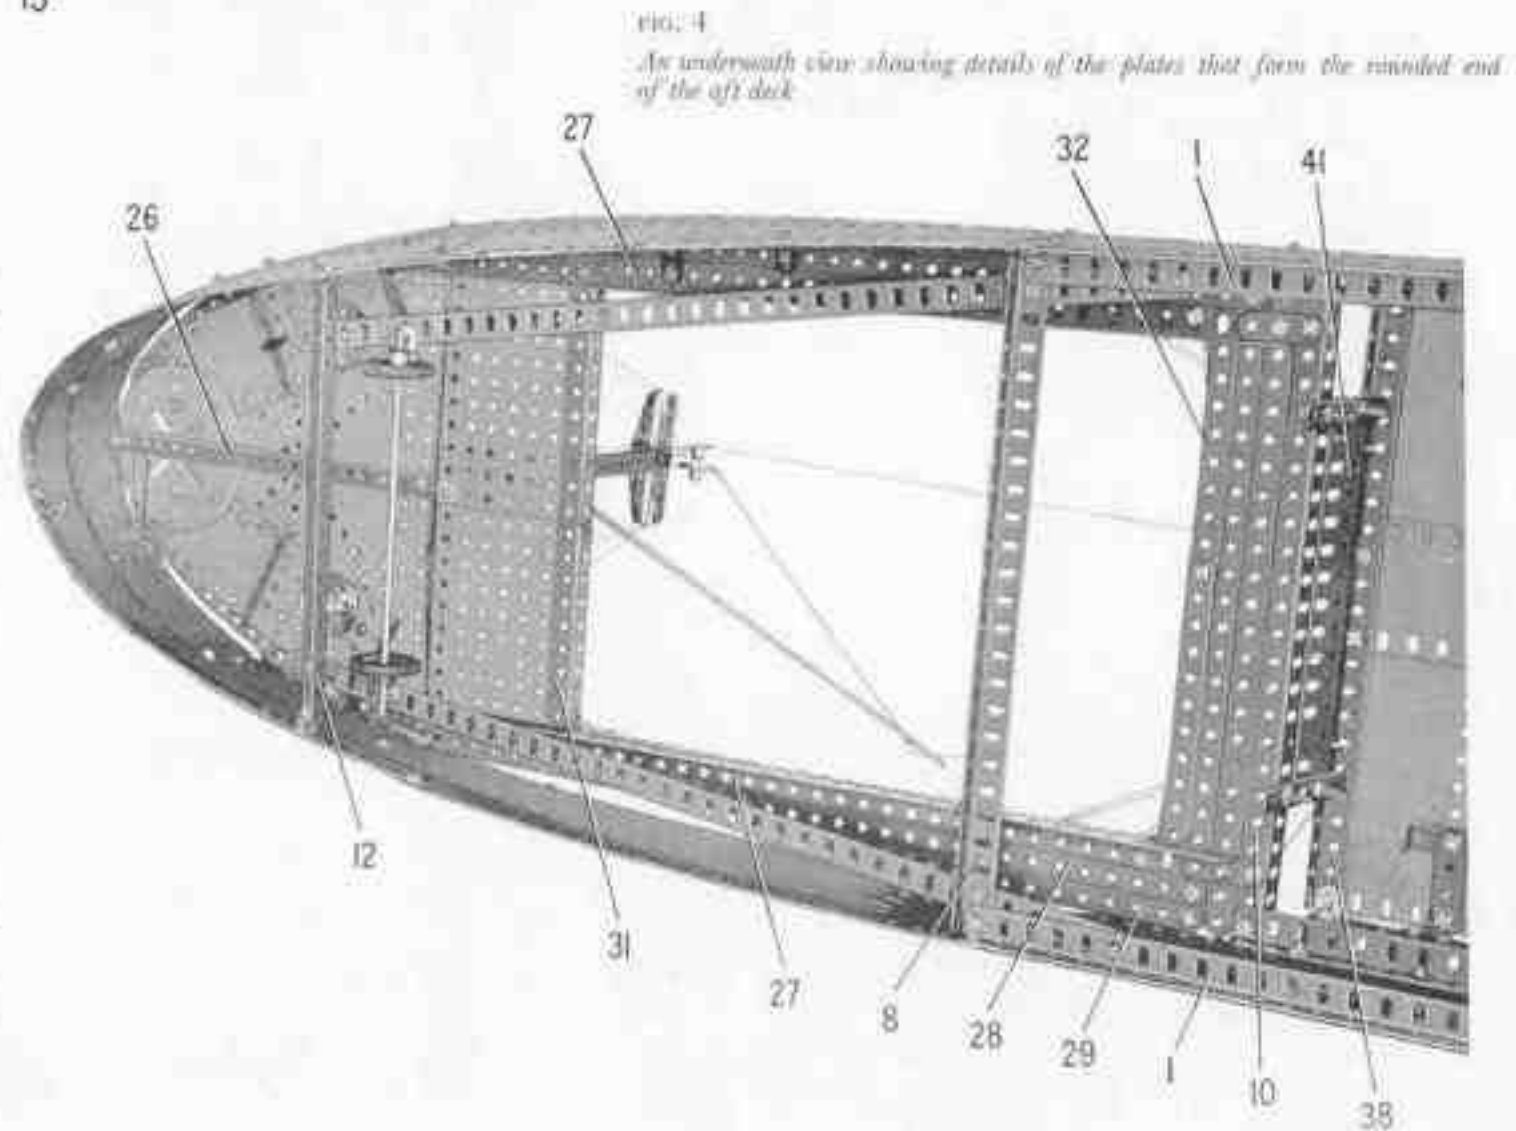
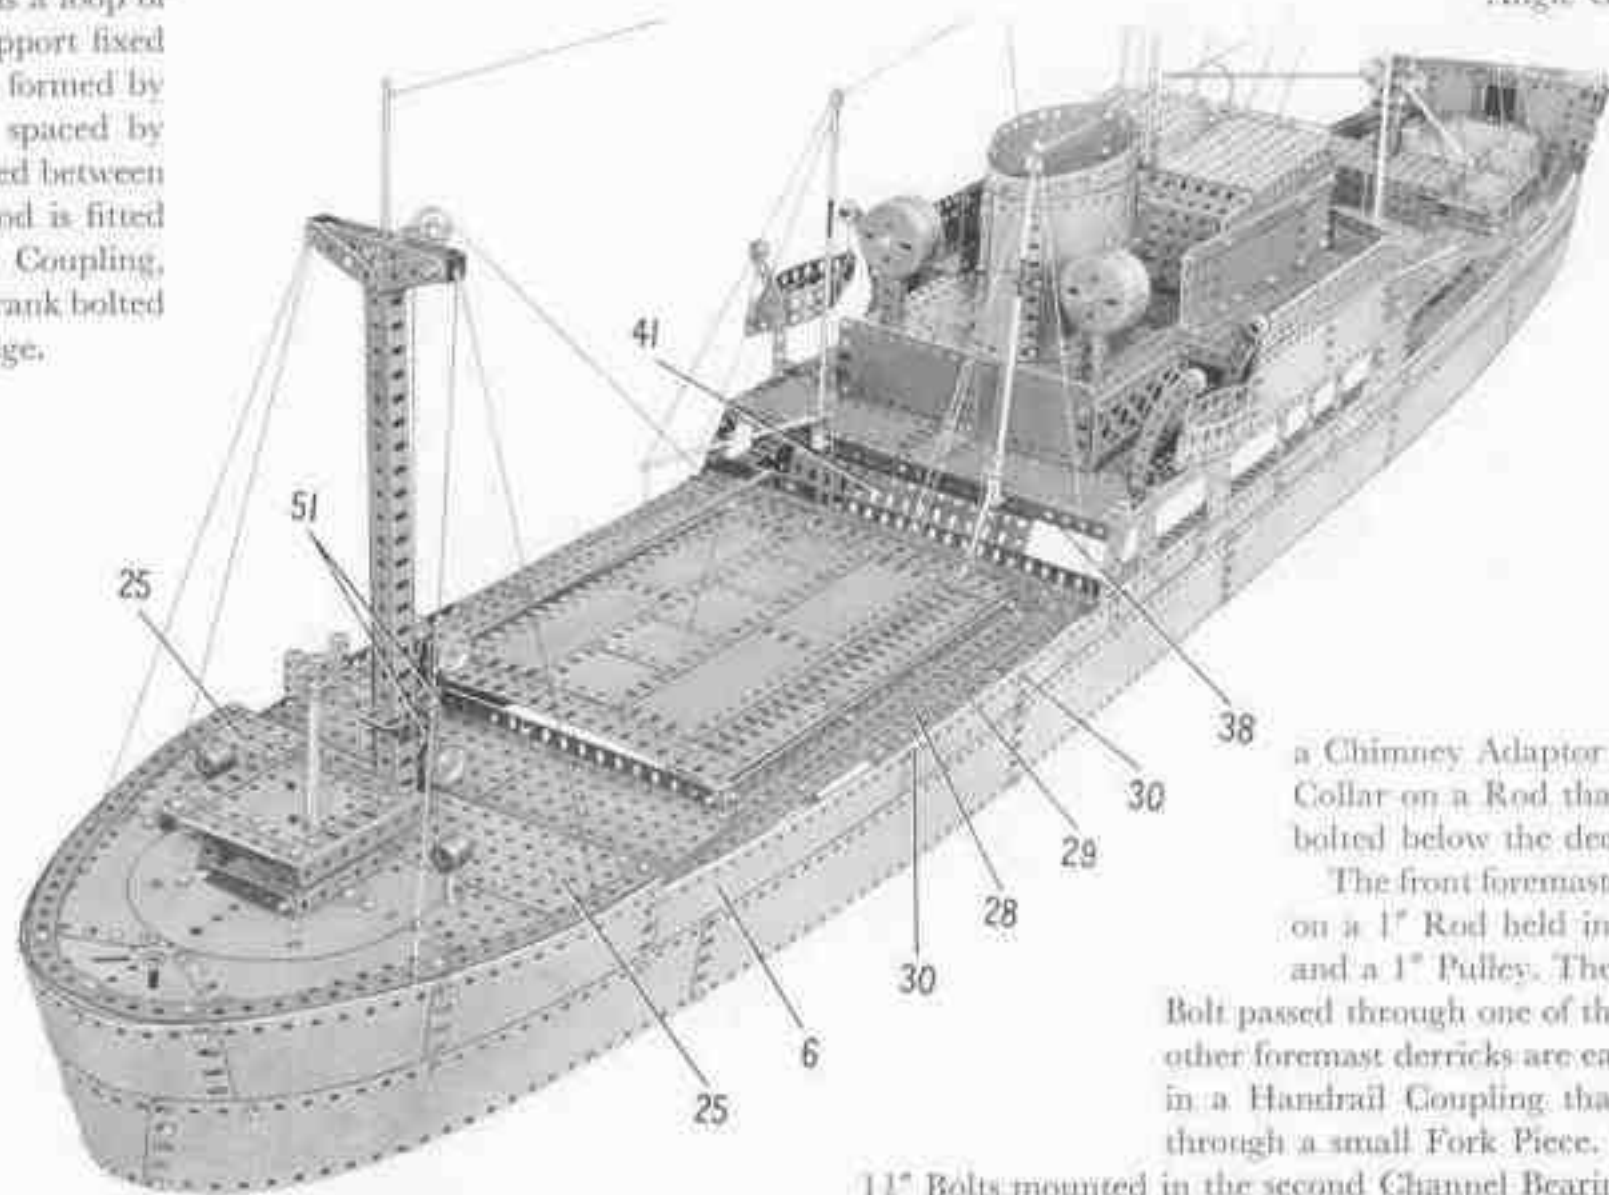

FIG. 4
FIG. 7. A stern view of the Cargo Ship showing the aft mast and details of the superstructure
The Strip Plates at the stern are curved, and are connected by a  $3\frac{1}{2}'' \times 2\frac{1}{4}''$  Flexible Plate, whose lower edge is strengthened on the inside by a Formed Slotted Strip. The stern Plates are extended upward by a  $12\frac{1}{2}'' \times 2\frac{1}{4}''$  Strip Plate (6) (Fig. 7) and two  $5\frac{1}{2}'' \times 2\frac{1}{4}''$  Flexible Plates on each side, and a further  $5\frac{1}{2}'' \times 2\frac{1}{4}''$  Flexible Plate is bolted in position above the  $3\frac{1}{2}'' \times 2\frac{1}{4}''$  Flexible Plate.
The deck at the stern consists of two  $5\frac{1}{2}$ "  $\times$   $2\frac{1}{2}$ " Flat Plates (25) (Fig. 7), a  $6$ " Circular Plate and a  $4$ " Circular Plate bolted to a  $9\frac{1}{2}$ " Strip (26) (Fig. 4). A  $3\frac{1}{2}$ "  $\times$   $2\frac{1}{2}$ " Flanged Plate and a  $4\frac{1}{2}$ "  $\times$   $2\frac{1}{2}$ " Flexible Plate are fixed at each side, and the deck is edged by Curved Strips as shown. The rear end of Strip (26) is connected to the stern by an Angle Bracket,
and the front end is supported by a built-up girder made from a  $7\frac{1}{2}$ " and a  $4\frac{1}{2}$ " Angle Girder bolted together. This girder is connected to the sides of the hull by  $1$ "  $\times$   $1$ " Angle Brackets, and two  $18\frac{1}{2}$ " Angle Girders (27) (Fig. 4) are attached to it by Double Brackets. The front ends of the Girders (27) are joined to the Girder (10) by  $1\frac{1}{2}$ " Strips. Two  $12\frac{1}{2}$ " Strips are fixed to the Girders (27) behind the Girder (10). A  $12\frac{1}{2}$ " Strip (28) on each side, extended by a  $5\frac{1}{2}$ " Strip, is supported by one of the first-mentioned  $12\frac{1}{2}$ " Strips and is connected to the
Girder (27) by Fishplates. A strip (29) on each side, made from a 5½" and a 4½" Strip, is bolted to a 5½" Angle Girder that is fixed to the side of the hull by bolts (30) (Fig. 7).
Two 5½" x 3½" Flat Plates, edged by a girder 31 (Fig. 4), are fixed to the rear ends of the Girders (27). The girder (31) is made from a 5½" and a 4½" Angle Girder, and it is connected to a 12½" Angle Girder on each side by a 1" x 1" Angle Bracket. The 12½" Angle Girders are fixed to the Girders (27), and they are joined by 1" x 1" Angle Brackets at their front ends to a built-up girder (32), which is made in the same way as the girder (31).
The aft mast (Fig. 7), is generally similar to the foremast, but varies in slight details that can be seen in the illustration. Two Trunnions (51) and a  $1\frac{1}{2}''$  Angle Girder are bolted to the mast,